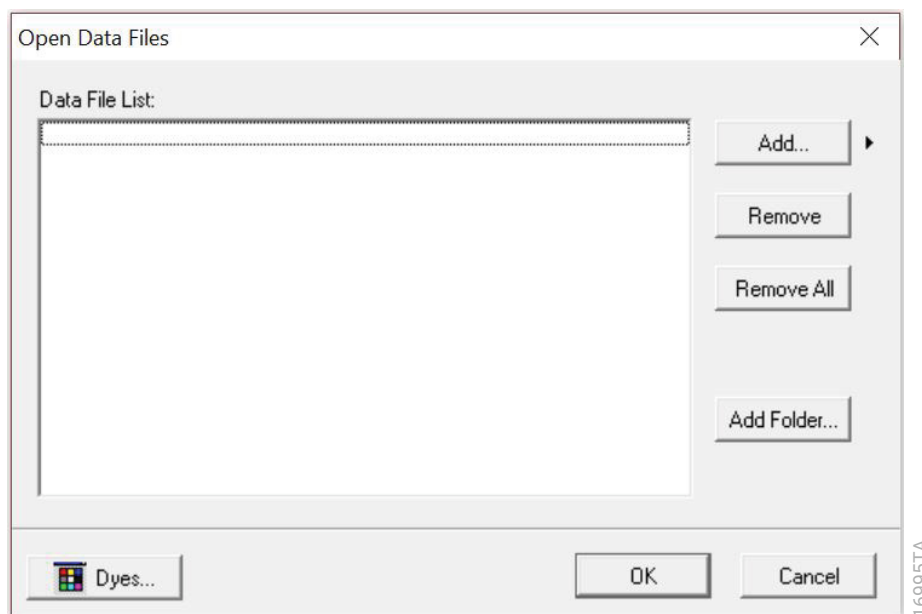

Figure 26. The GMHID-Spectrum 'Data File List'.
4. Select **Open**, and the selected files will appear in the 'Data File List' (Figure 26).